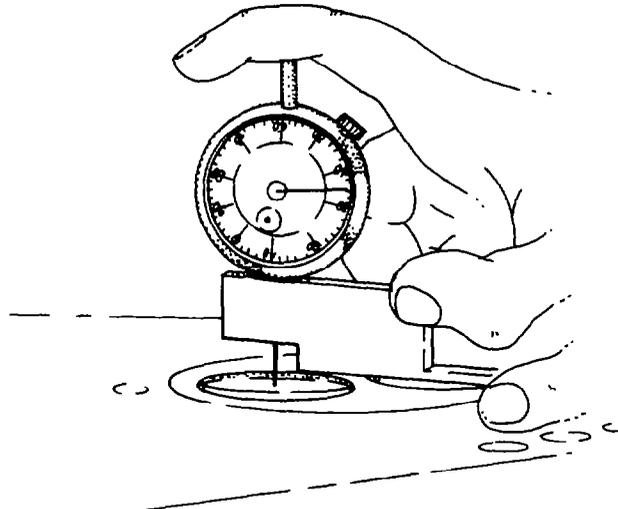

Fig. 40 — Measuring Valve Head to Deck Clearance
- b. Move the depth gauge over to the valve and check that the clearance is 0.35 mm (0.014 in.) (see fig. 40).